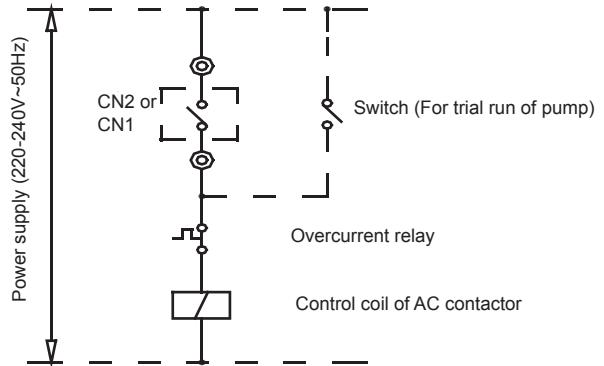

Fig.5-3
- Step 10. Connection of control wires of pump: the control wires of AC contactor of pump must pass the connection terminals CN1 or CN2 of the main unit, as shown in *Fig. 5-3*.